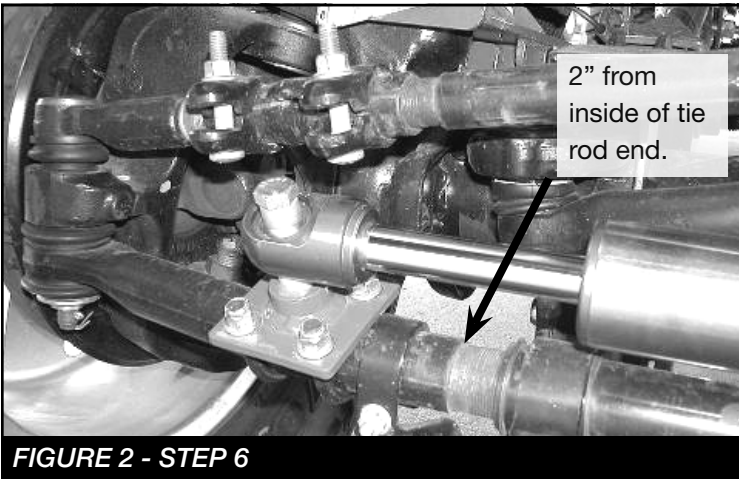

FIGURE 2 - STEP 6
4. **F-250/350 ONLY** Working on the driver side of the truck, locate FT30148 Tie Rod End Bracket and position it 2" from the inside of the outer tie rod end. Use the FT740U U-Bolt and 3/8" hardware to attach the bracket to the tie rod end. Leave loose at this time. **SEE FIGURE 2**